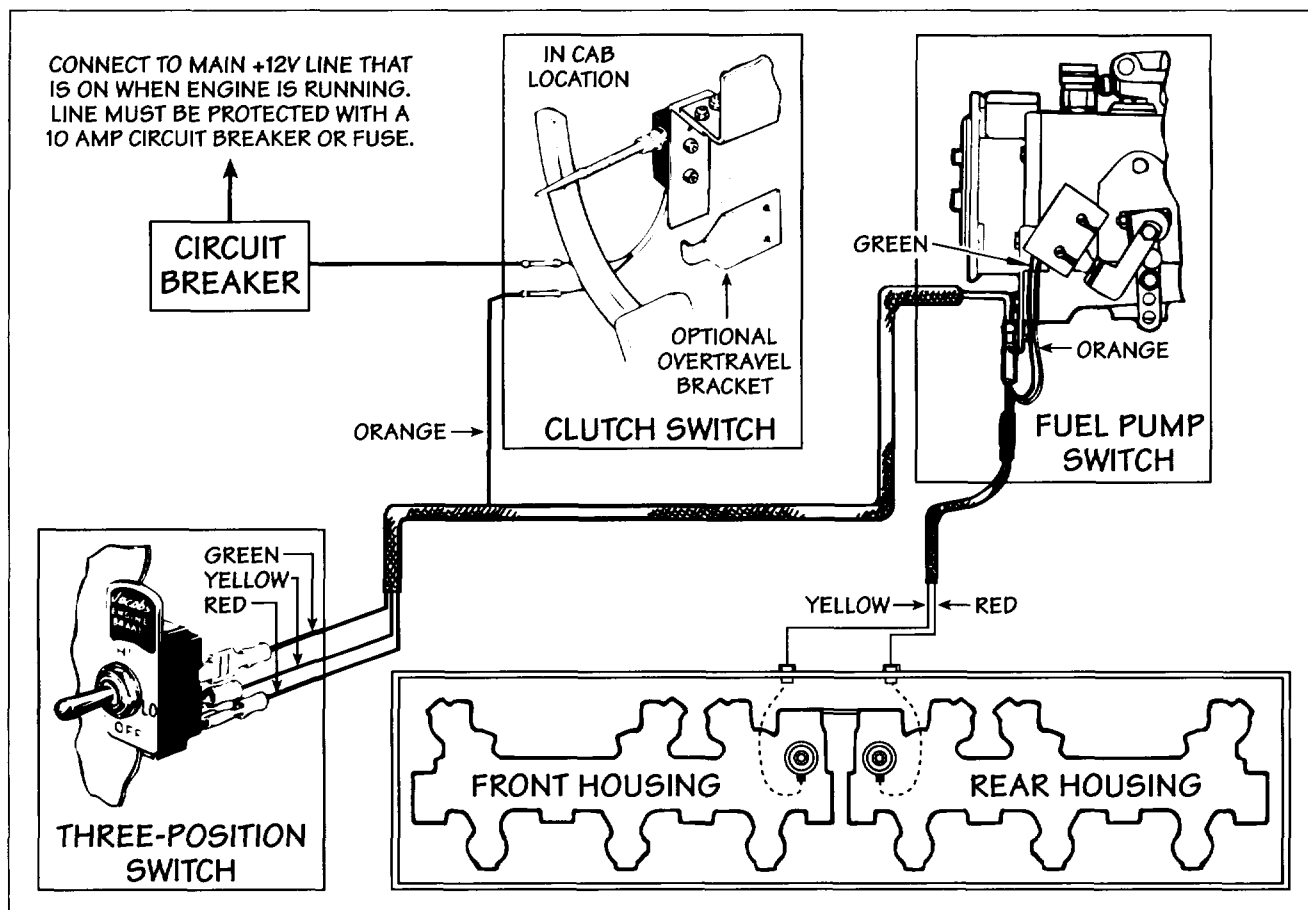

FIG. 37
5. Cut the wires to the proper length and secure them with ties. Connect the wires as shown in Fig. 37.